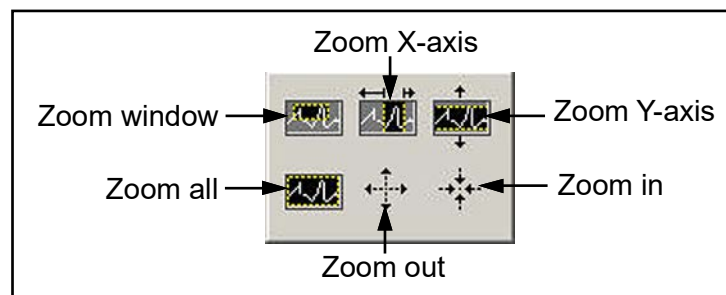

Figure 45: Zoom Tool
- Zoom Tool – gives you six options as shown in *Figure 45* below.